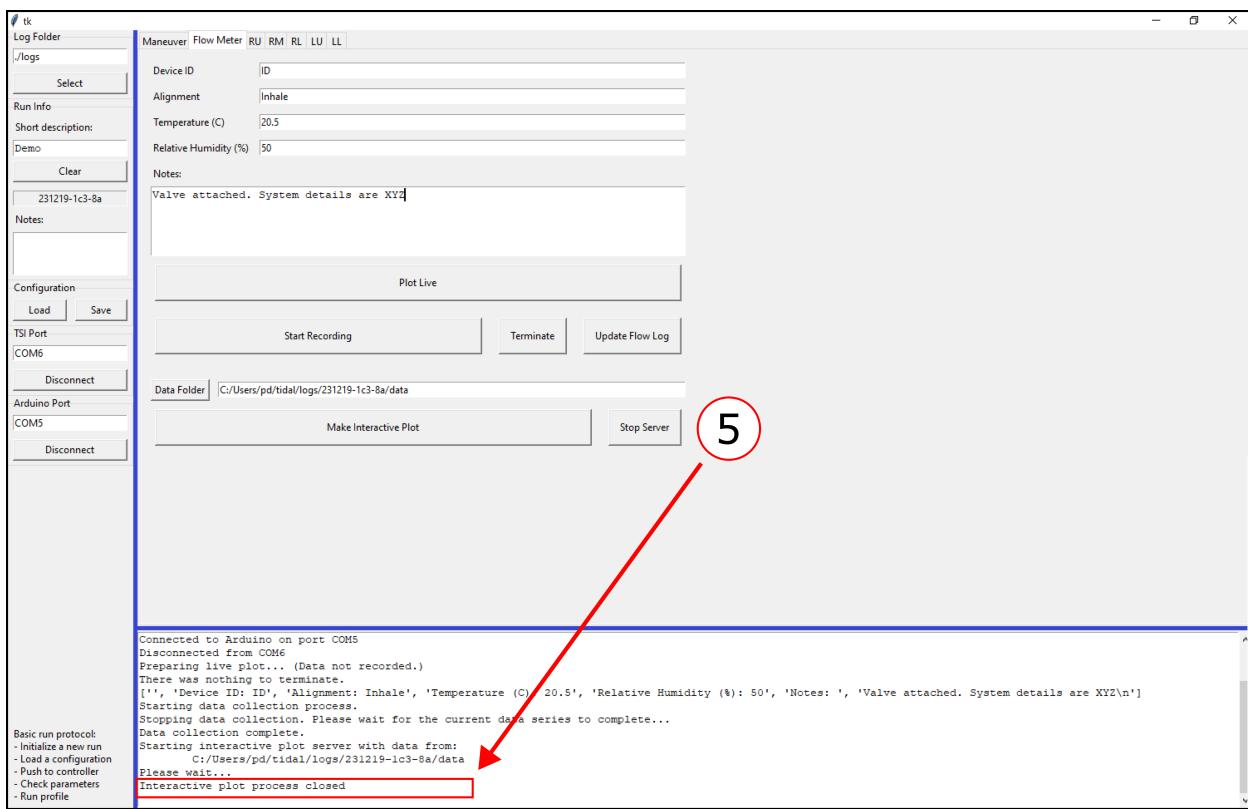

Figure 21: Stop the interactive plot server before moving on.
- When finished with the interactive analysis process, close the browser window and stop the plot server. (**Figure 21**)